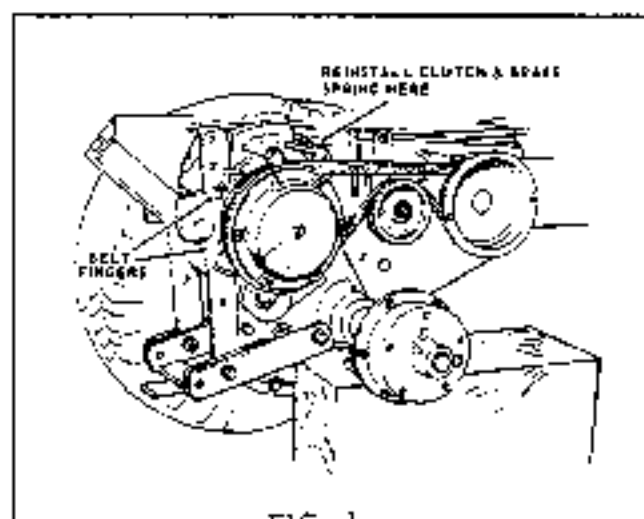

FIG. 1
5. Install the two belt stop fingers as indicated in Fig. 1.